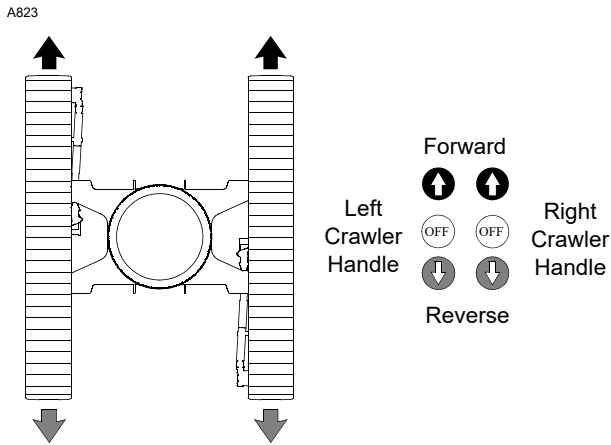

FIGURE 3-22
- To TRAVEL STRAIGHT (Figure 3-22), move both crawler handles same amount in desired direction from off.